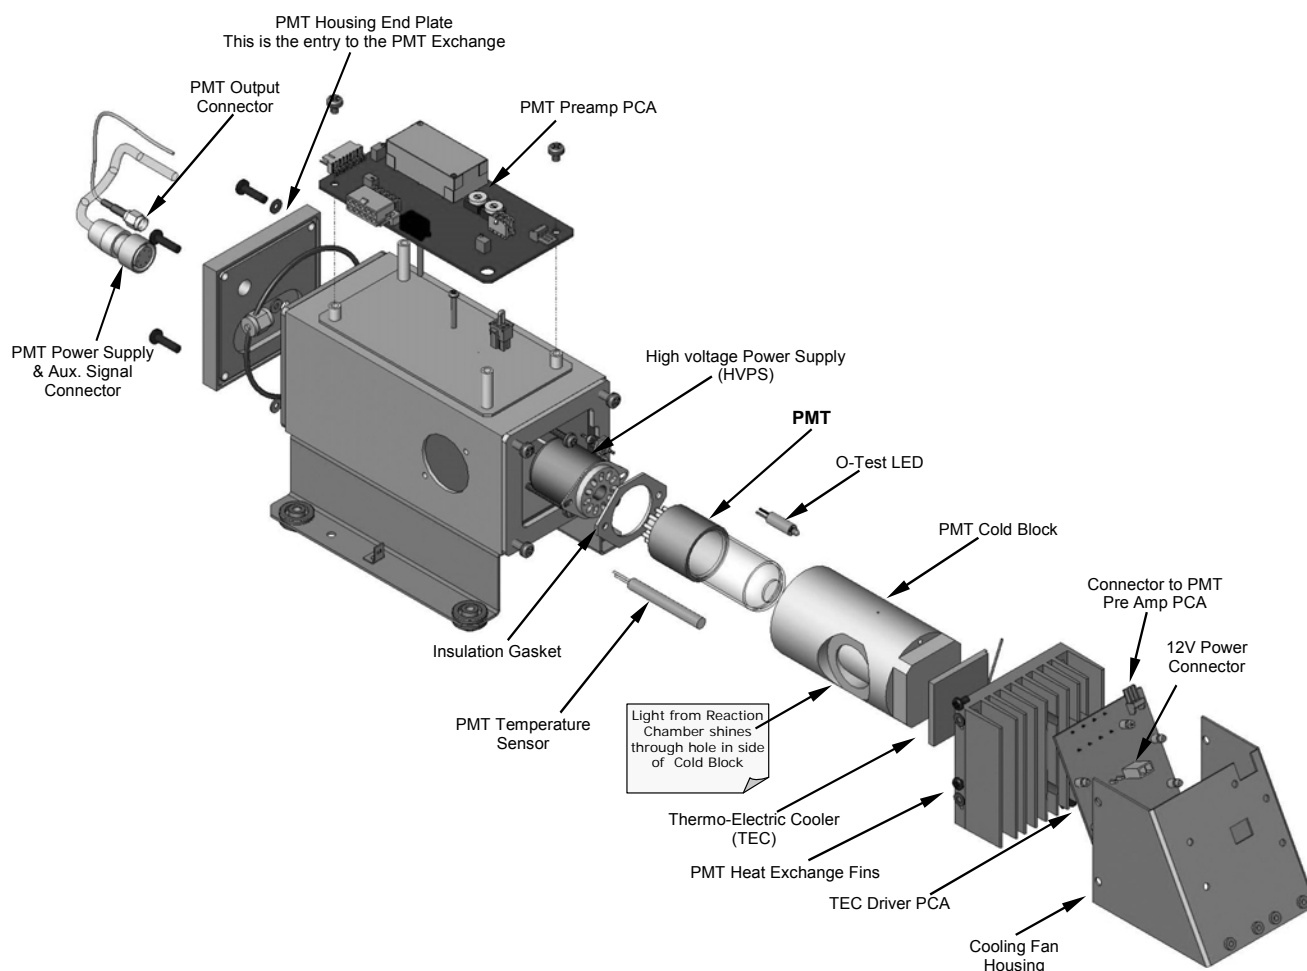

Figure 12-16: PMT Assembly - Exploded View
6. Locate the Preamp PCA (refer to Figure 12-16).